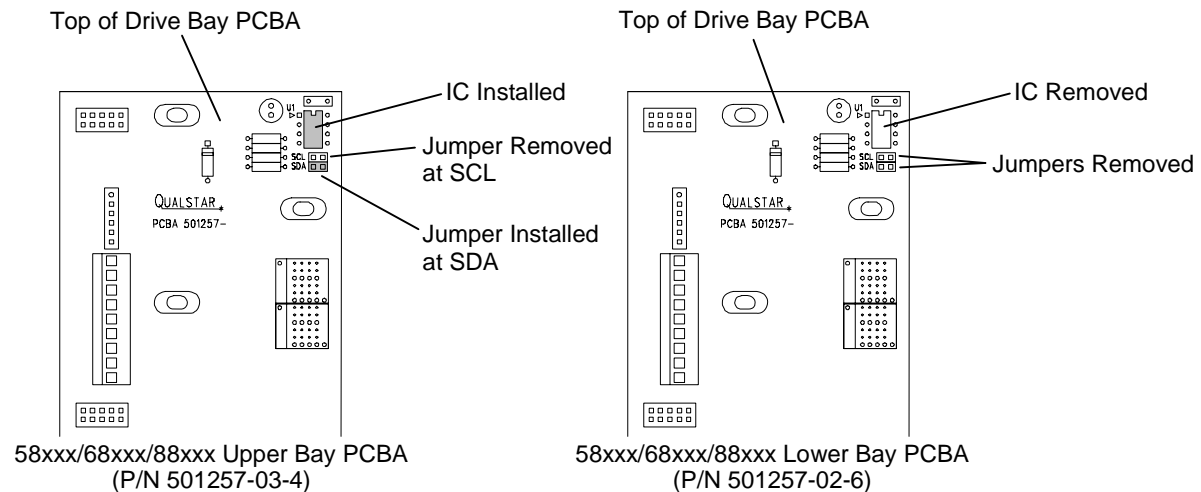

Figure 7-63 58xxx, 68xxx and 88xxx Model Drive Bay PCBA Jumper and IC Configuration
1. Before replacing the Drive Bay PCBA, determine that the board has the proper jumper and IC (integrated circuit) configuration. For the Upper Bay Board (P/N 501257-03-4) a jumper must be installed on the board at the SDA connector and a jumper must not be present at the SCL connector. The IC component must be installed at location U1. For the Lower Bay Board (P/N 501257-02-6) jumpers must not be present at the SDA and SCL connectors and the IC component must be removed at location U1. See Figure 7-63.